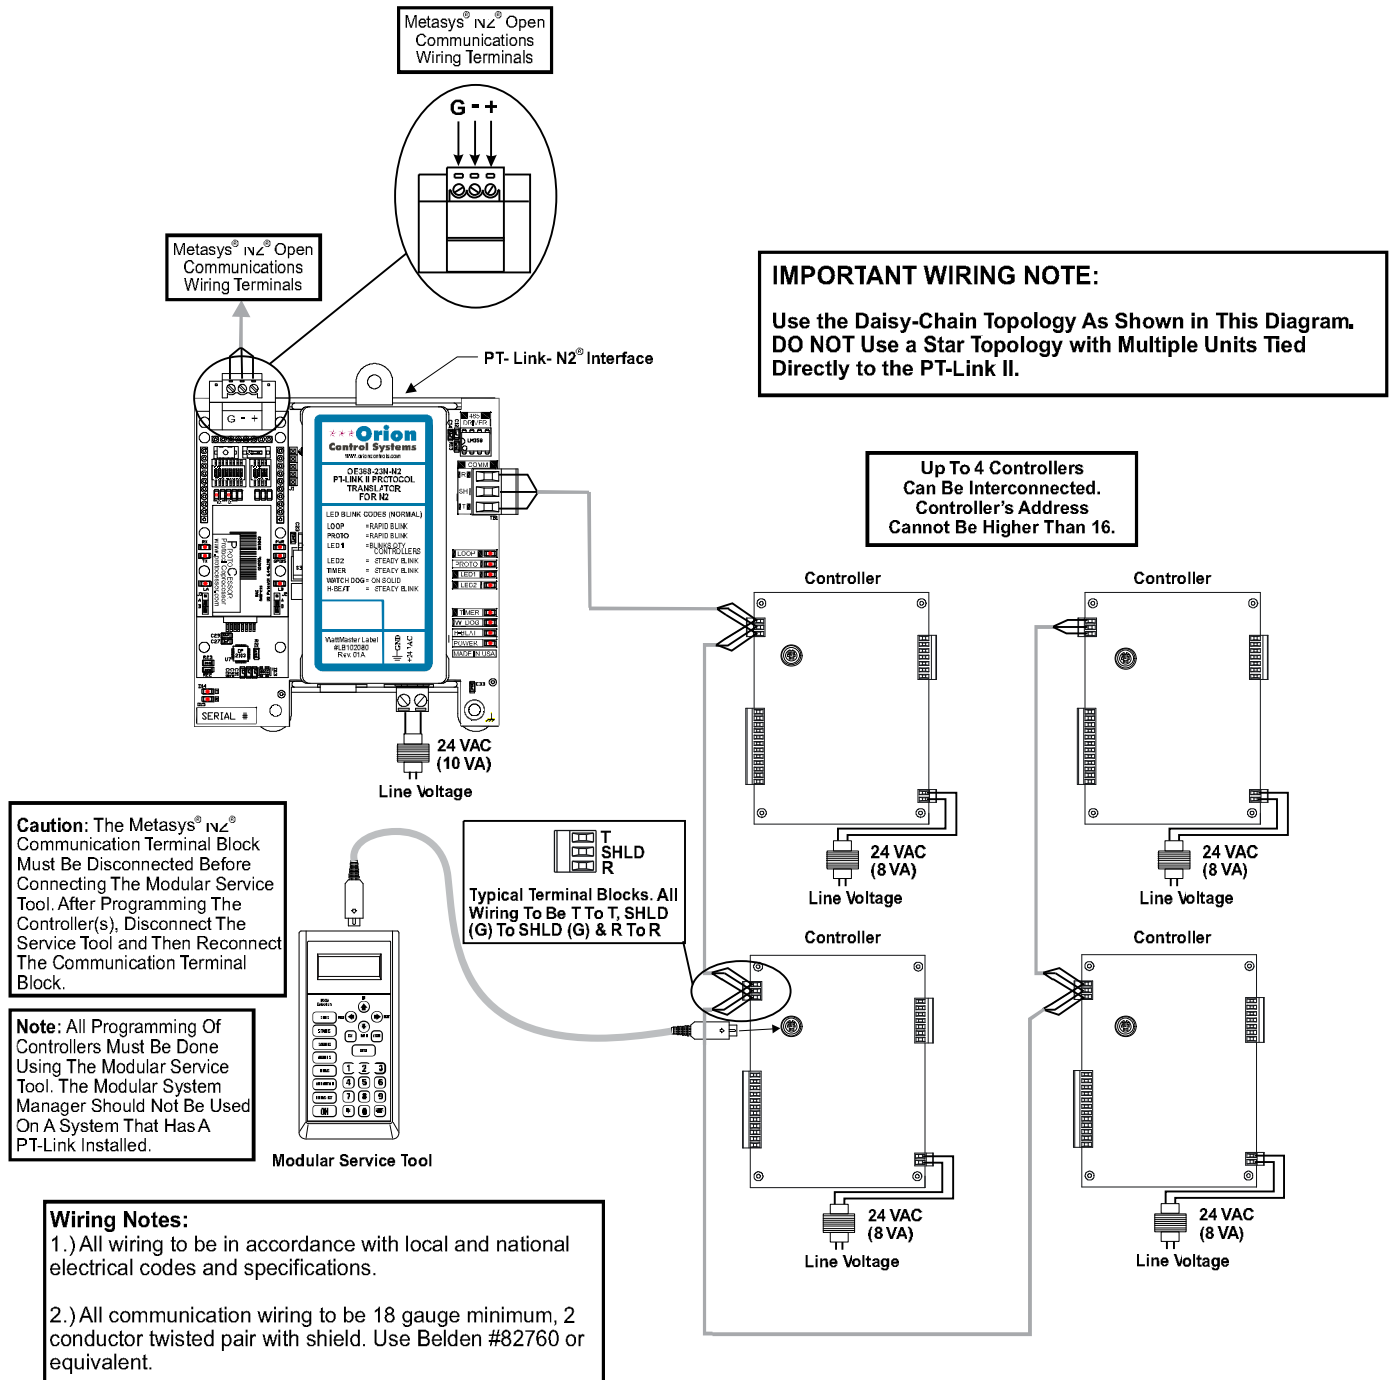

Figure 2: PT-Link II N2® Interface Wiring
2. Connect your PT-Link II to the Controller(s) on your system (up to four) and connect your PT-Link II to the N2 Network (**Figure 2**).